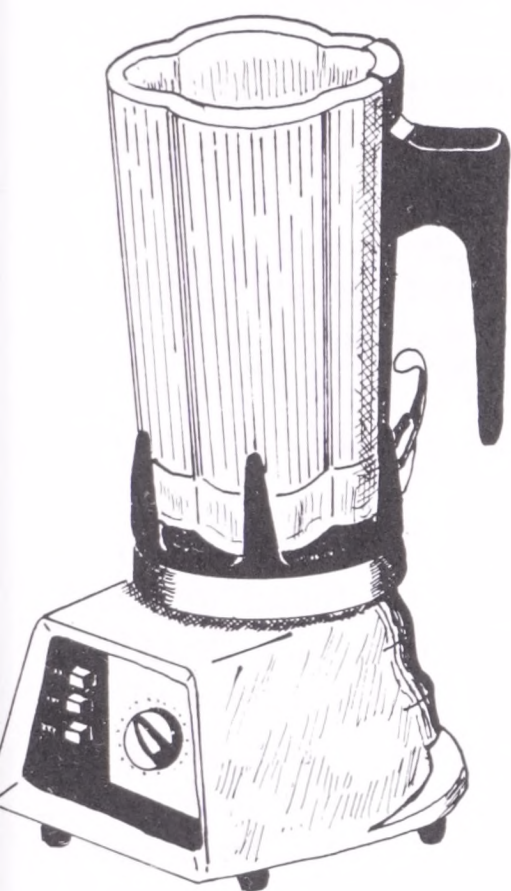
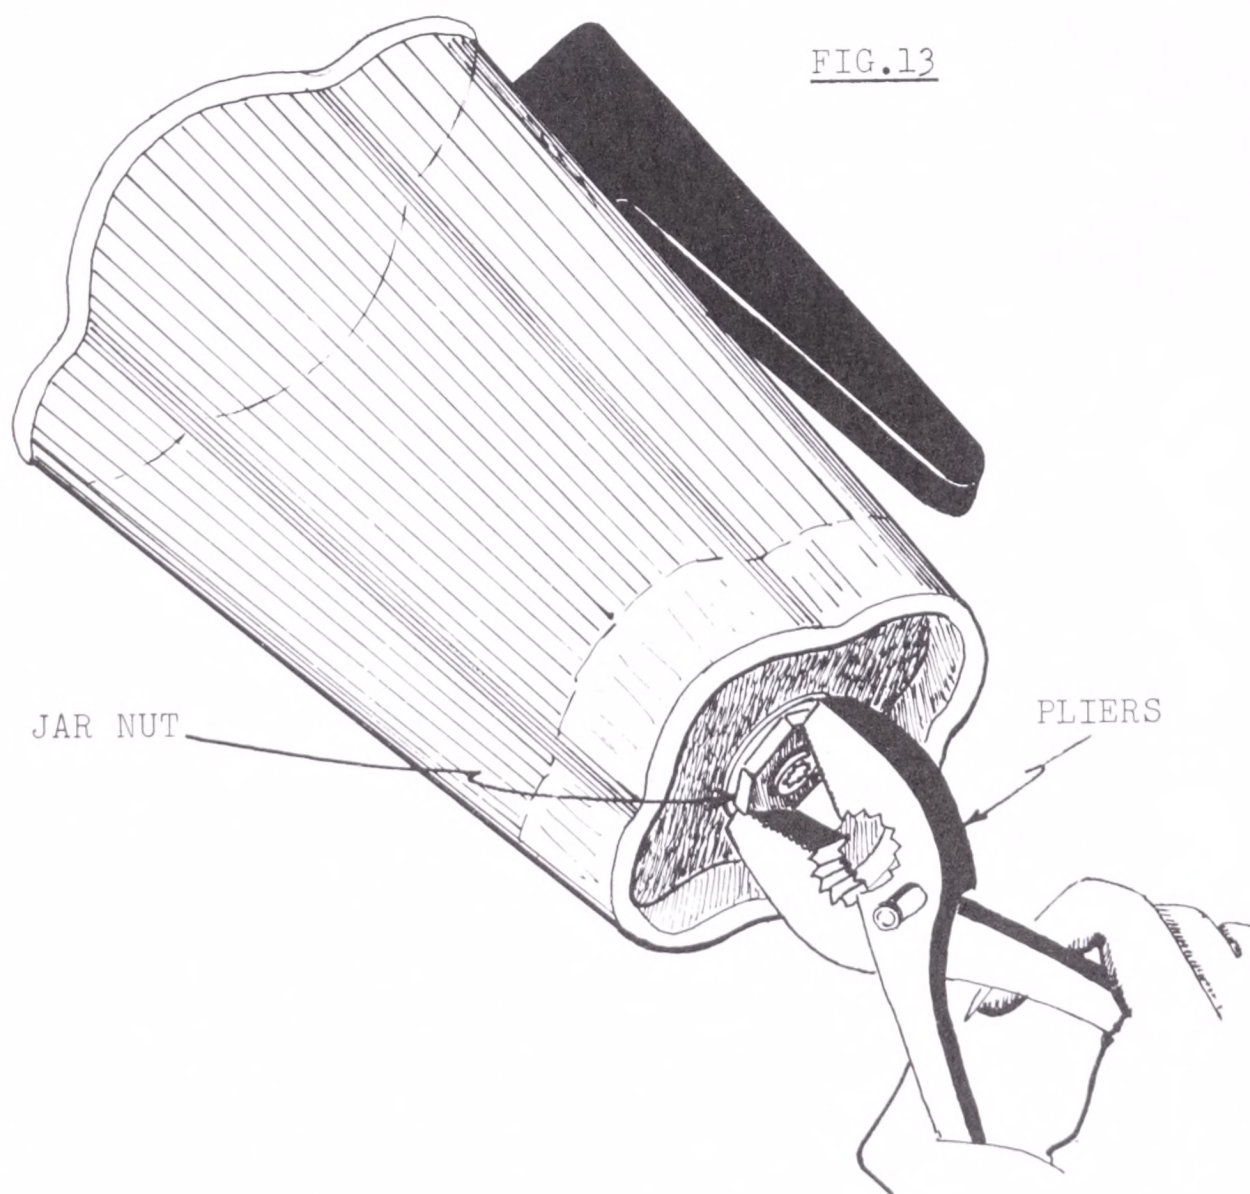

FIG. 12
FIG. 13
18. To take apart the blade assembly for the blender illustrated in *Figure 12*, place the jar on its side and remove the large nut located on the bottom of the jar by turning it counter-clockwise with a pair of pliers. (*Figure 13*)